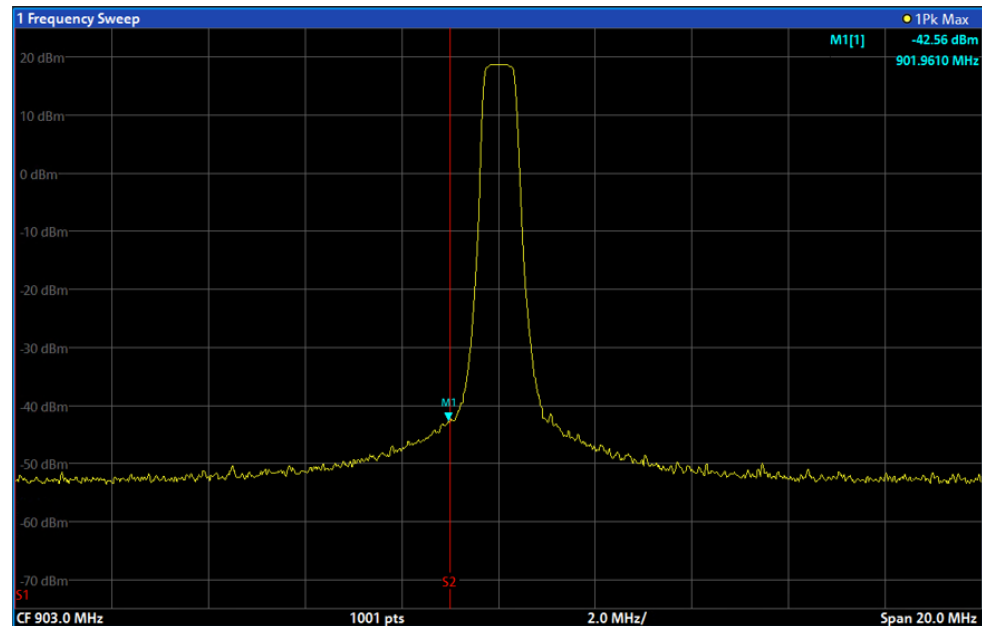

Figure 2-16: Measurement of maximum radiated power at lower edge of ISM band
21. The marker now indicates the highest level value M1 within the frequency range to be analyzed (Figure 2-16).